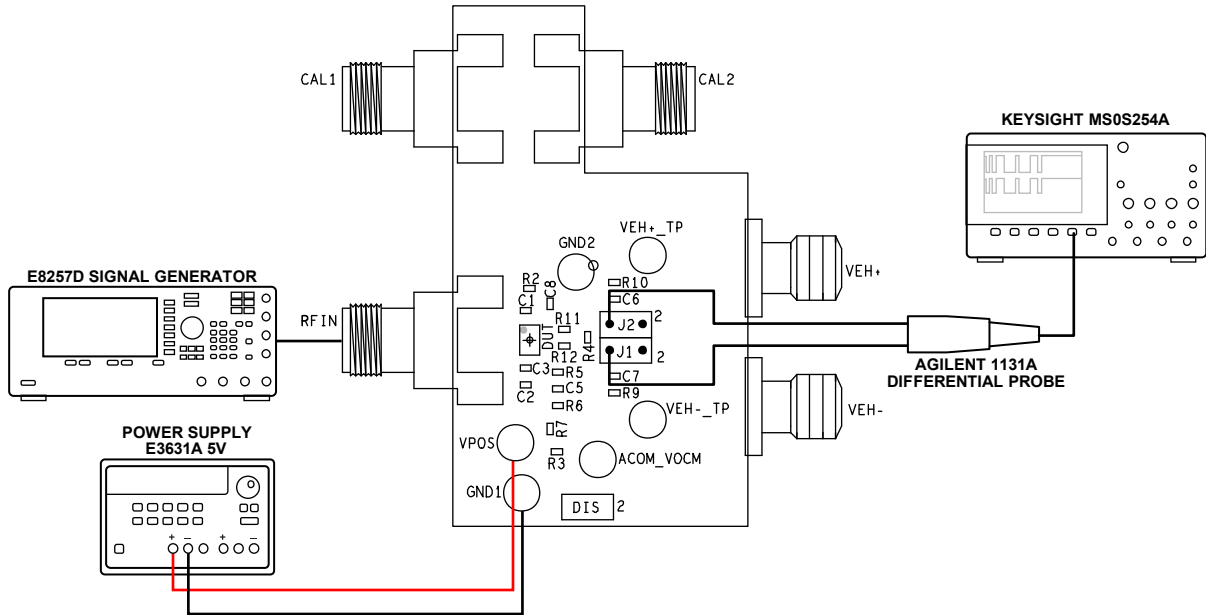

Figure 3. ADL6012 Envelope Measurement Using Differential Probe
The Keysight MSOS254A high speed oscilloscope is acceptable to use to accurately measure the rise and fall times of the ADL6012. The Keysight MSOS254A oscilloscope must have a bandwidth of 2 GHz or higher to accurately measure the ADL6012 output response. The amplitude modulation (AM) signal and the pulse modulated RF signal can be measured with a differential probe at the envelope outputs with the high speed oscilloscope (see Figure 3). The Agilent 1331A differential probe is acceptable to use. If a differential probe is not available, connect the VEH– and VEH+ Subminiature Version A (SMA) connectors to the Keysight MSOS254A oscilloscope with 50 Ω , impedance controlled RF cables terminated with 50 Ω at the oscilloscope inputs (see Figure 4). Ensure that both RF cables are less than 2 inches in length to minimize reflections.
For high speed pulse response measurements, use the Agilent 1131A differential probe to measure the envelope output response. See Figure 3 for the measurement points used to make the connections to the ADL6012-EVALZ. The ADL6012 is designed to drive a 100 Ω differential load. Place a 100 Ω resistor (R4) on the ADL6012-EVALZ to evaluate the ADL6012 output response to the differential load. Each envelope output has a common-mode voltage of 2.5 V with the VPOS voltage at 5 V.